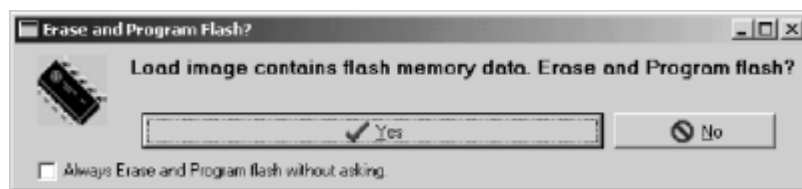

Figure 4-35: Erase And Program Flash Window
11. Click Yes in Erase and Program FLASH window. (**Figure 4-35**)